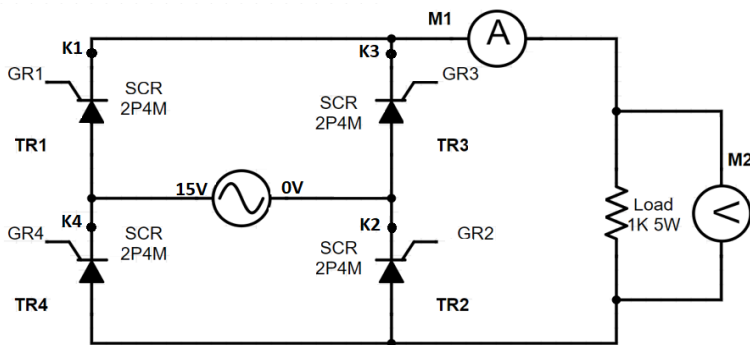

Figure 29
1. Connect the circuit as shown in Figure 29.
6. Connect circuit as shown in Figure 29.
9. Connect the ammeter between SCR and Load, as shown in Figure 29.